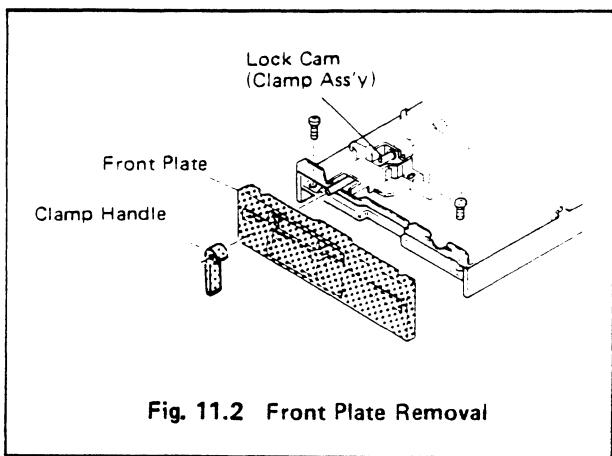

Fig. 11.2 Front Plate Removal
11.2 Front Plate Removal and Installation (See Fig. 11.2)